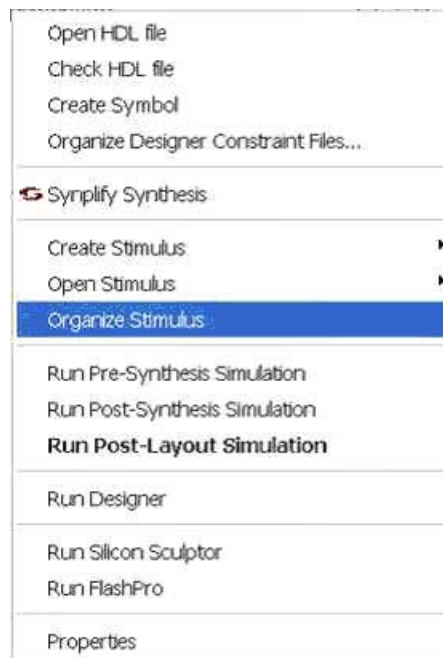

Figure 7-20 • Organize Stimulus Files
1. Right-click **Top.vhd** in the **Design Hierarchy** tab and choose **Organize Stimulus**, as shown in Figure 7-20.